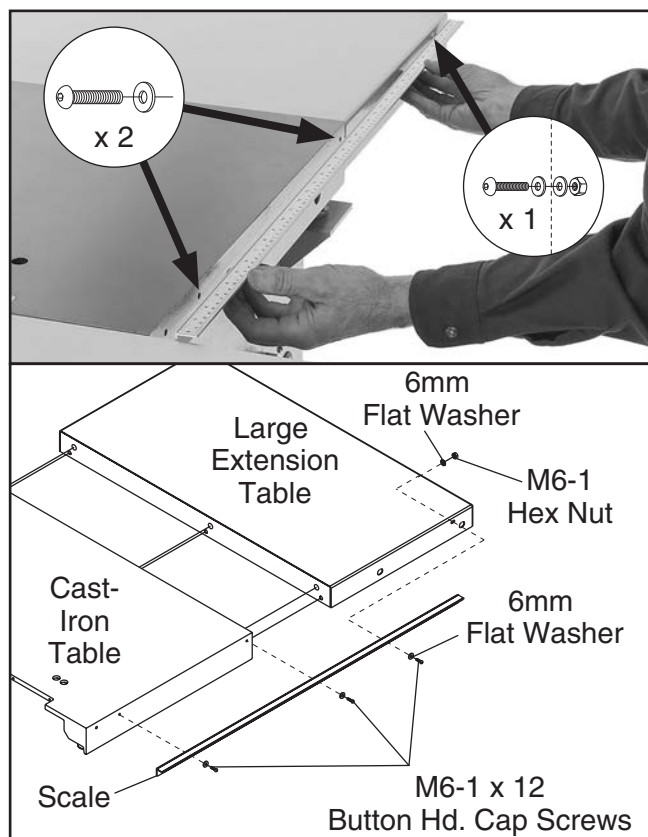

Figure 25. Mounting rip fence scale.
15. Attach rip fence scale flush along top edge of cast-iron table and large extension table (see **Figure 25**) with (3) M6-1 x 12 button head cap screws, (4) 6mm flat washers, and (1) M6-1 hex nut.